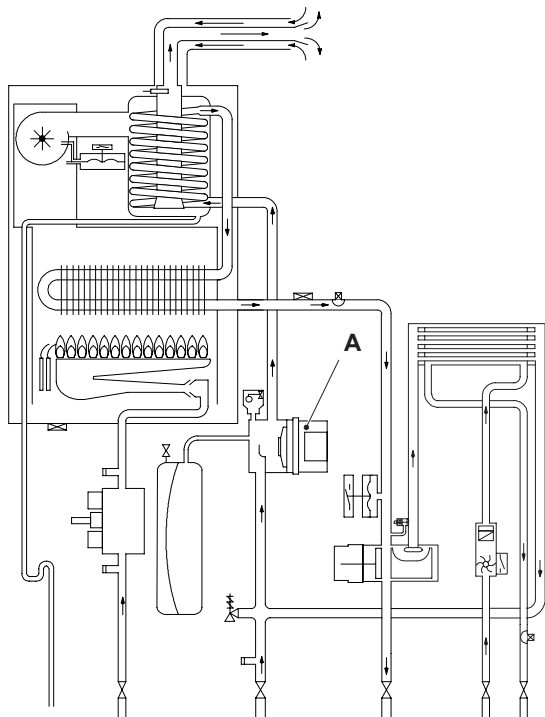
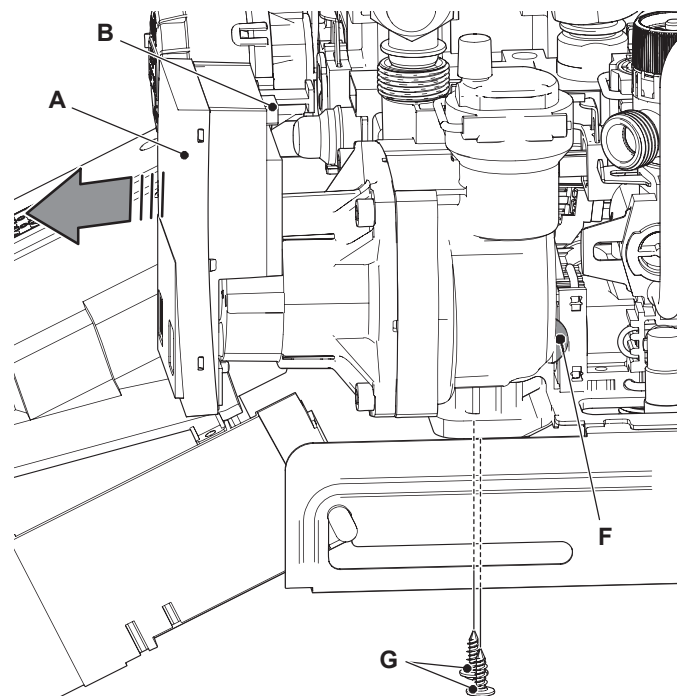

Figure 8.1
Figure 8.3
The pump A in Figure 8.1 and Figure 8.3 has the function of making the water in the main circuit circulate through the main heat exchanger, the condensing heat exchanger and therefore through the c.h. system (during the c.h. function) or through the secondary heat exchanger (during the d.h.w. function).
- 3 Disconnect the connector B (Figure 8.3).
- 5 Remove the locking plate F (Figure 8.3).